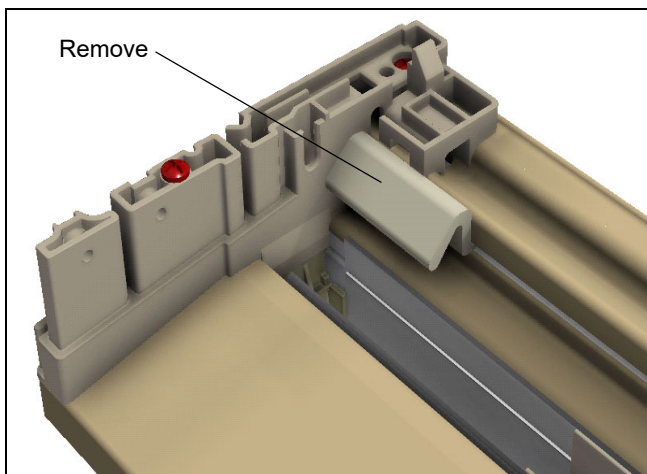

Figure 69
6. Remove small pieces of sill weather strip at each end and discard. See Figure 69.